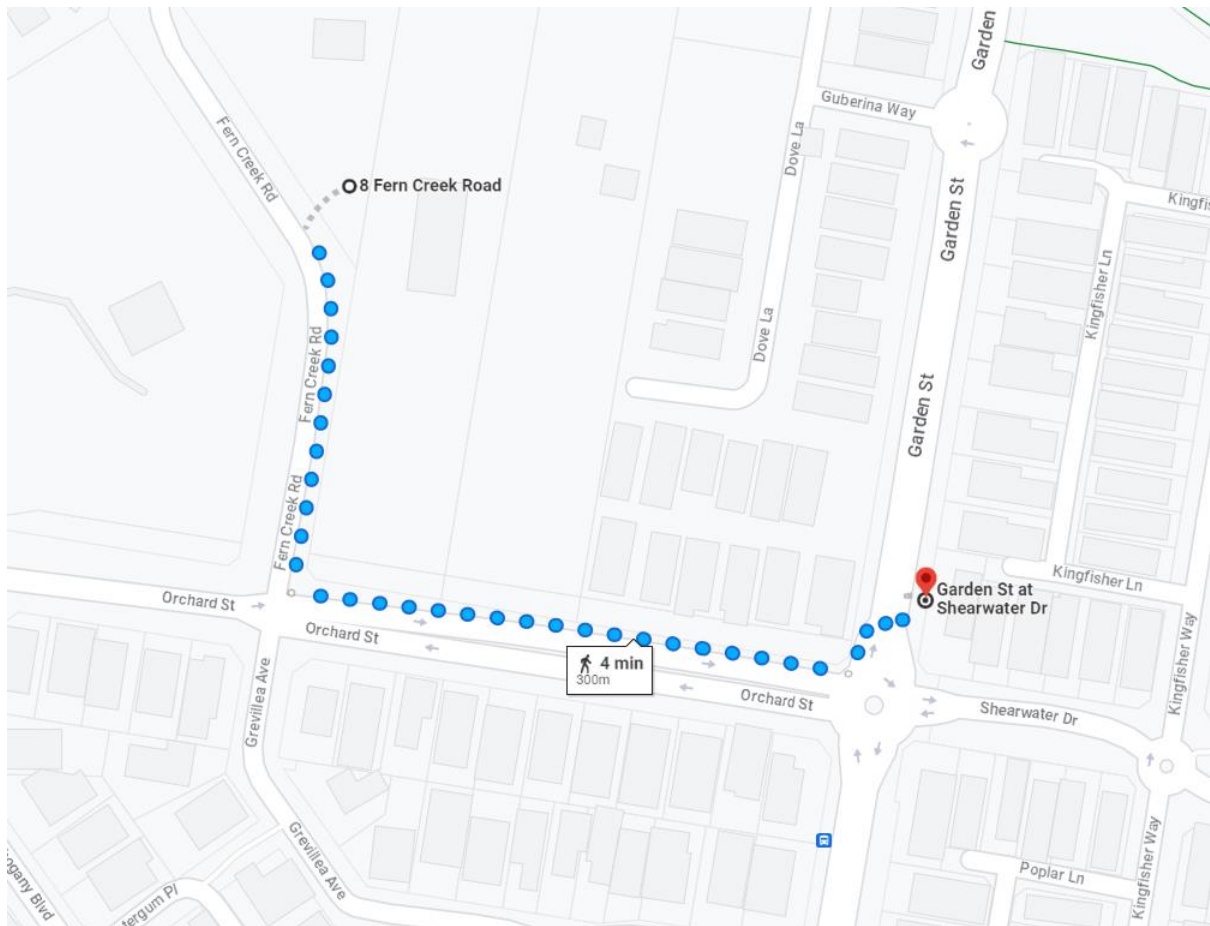

Figure 2.1 Site to Garden St at Shearwater Dr, Warriewood bus stop (Source Google maps)
- It takes 4 minutes walking (300m) from the site to Garden St at Shearwater Dr, Warriewood bus stop (refer to figure 2.1).